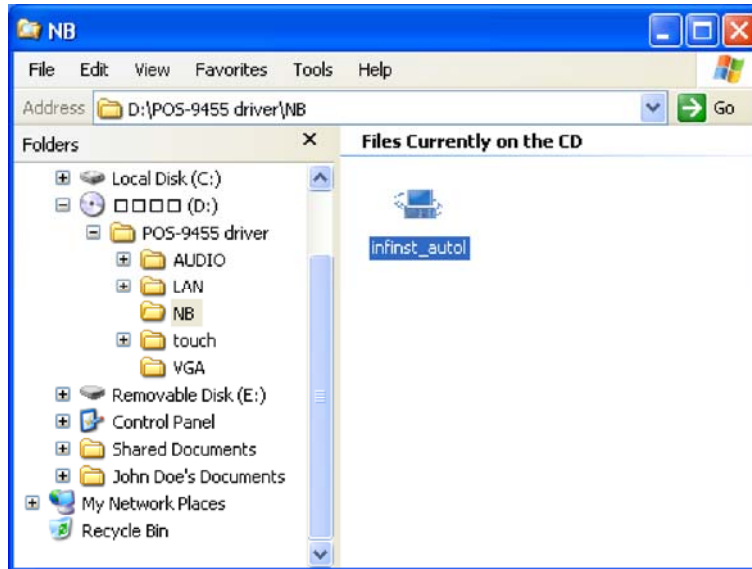

Figure 6-1: Chipset Driver Installation Program
Step 1: Browse to the **NB** directory on the installation CD (Figure 6-1).